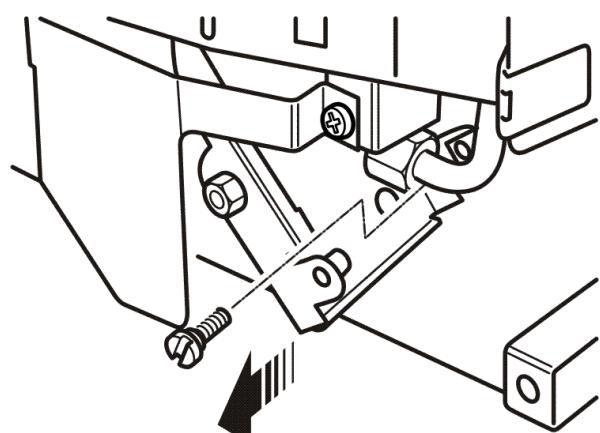

Figure 37. Control linkage disconnection
2. Detach the control-linking bar from the control pivot bracket by removing the knurled screw, which joins the control linking bar to the control pivot unit (See figure 37).